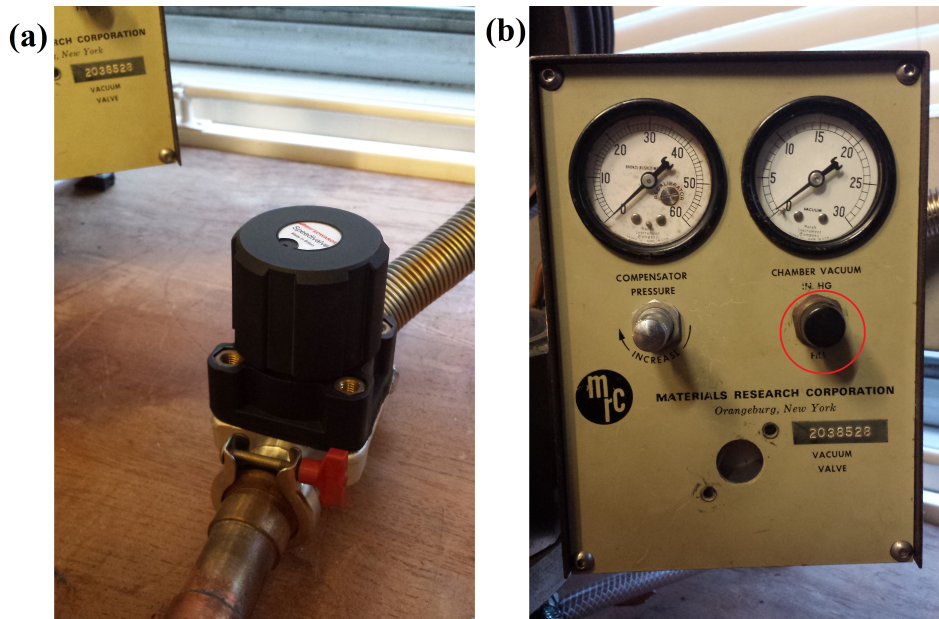

Figure 13: (a) Shows the valve used for pumping the chamber of the arc furnace out. (b) Shows the control used to fill the arc furnace chamber with argon.
**Step 5:** Close the arc furnace and open the vacuum valve slowly by rotating it anti-clockwise (Fig. 13(a)). The chamber is very large so leaving arc furnace pumping for 10-15 minutes may be worth while. You can also check the pressure on the other control panel by changing the dial to "head 2".
**Step 6:** Once the chamber is pumped out, it needs to be flushed out with argon. This is done by pressing the black button labelled "Fill". You do not want to fill the chamber completely, fill it until the chamber vacuum is at 15 on the scale (Fig. 13(b)).